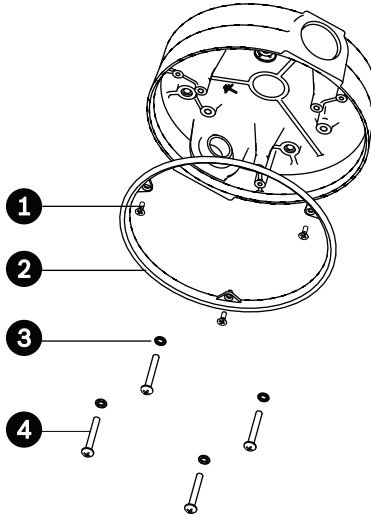

Figure 4.6 O-ring and retaining ring placement for outdoor installation
3. Drill the four (4) holes in the installation location. Use a minimum screw length of 10 mm (.39 in.).
5. Thread the four (4) 3.97 mm I.D. by Ø1.78 mm O-rings (Item 3, *Figure 4.6*) onto the four (4) M4 or #10 user-supplied pan head screws. The O-rings are supplied with the AutoDome Easy II Outdoor Camera.
- b. Thread the flat side of the gasket (item 1, below) onto the recessed side of the retaining ring (item 2). The illustration below shows a cross-section of the gasket on the retaining ring.